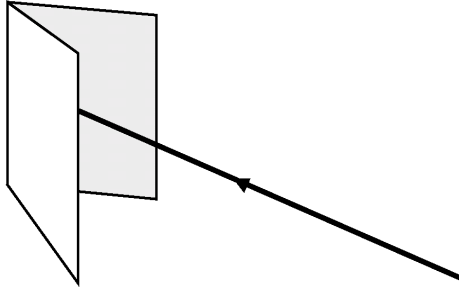

Figure 2-1: Folded Metal Beam Target
- Post prominent warning signs near the laser operating area (Figure 2-1).